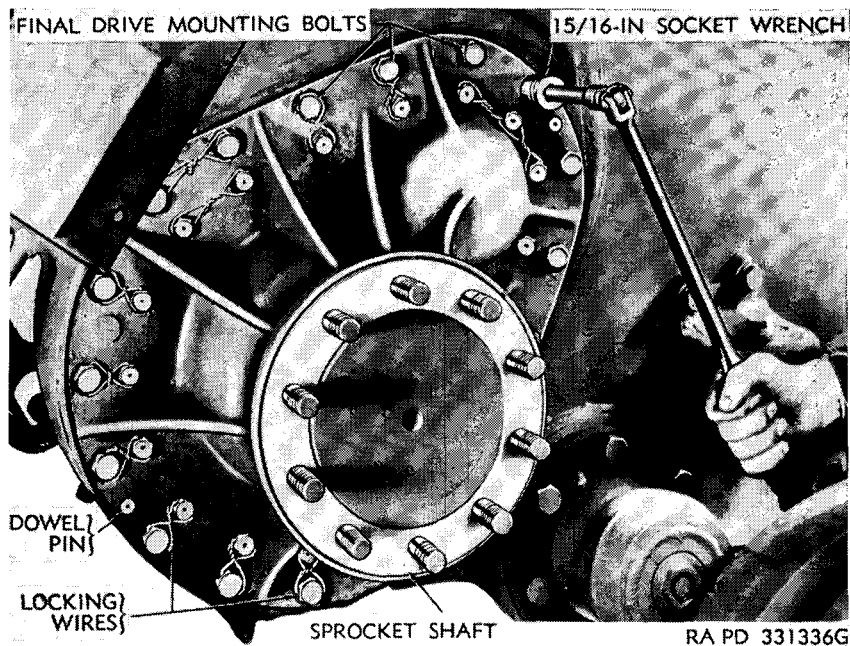
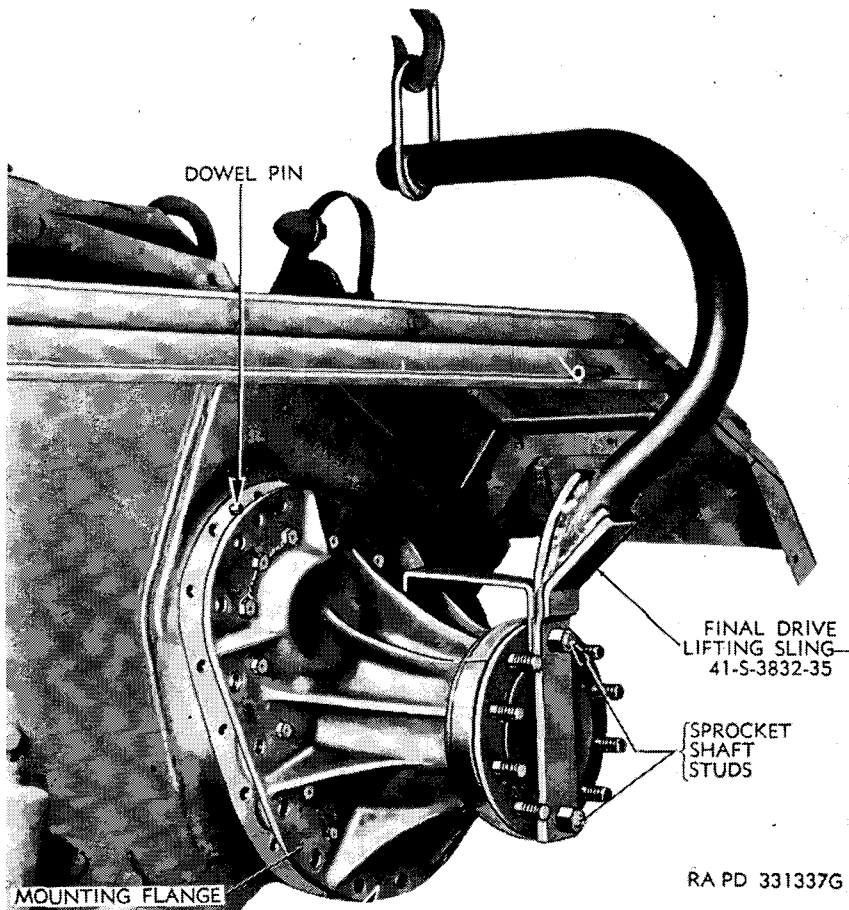

Figure 128. Disconnecting final drive from vehicle.
Figure 129. Removing final drive assembly.
a. DESCRIPTION. The final drive units are mounted in separate housings bolted to the front of the hull on each side (fig. 128). The final drives are designed so that they are interchangeable, right and left, and can be installed on either side of the vehicle. Power is transmitted to the final drives from the controlled differential through short propeller shafts which have universal joints at each end. The herringbone gear set provides a reduction ratio of 2.94-1. Power output is through the sprocket shaft which carries the track driving hub and sprockets.
- (6) *Remove final drive assembly.* Cut locking wires and loosen 18 mounting bolts (fig. 128) that hold final drive bracket flange to hull sidewall. Connect hoist to final drive lifting sling—41-S-3832-35 and install on final drive bracket. Remove attaching bolts, pry final drive assembly off dowel pins, and remove from vehicle (fig. 129).